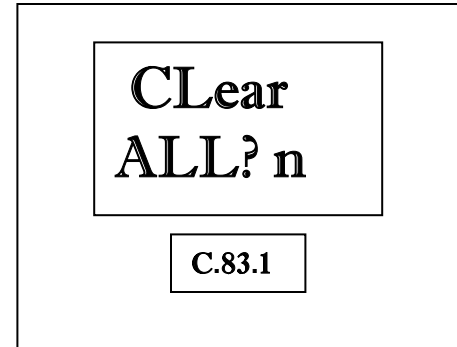

Figure 32
1. After the Manager's Mode has been accessed, press the number 8 and 3, then the **MODE** button on the keypad. The display shown in Figure 32 appears.